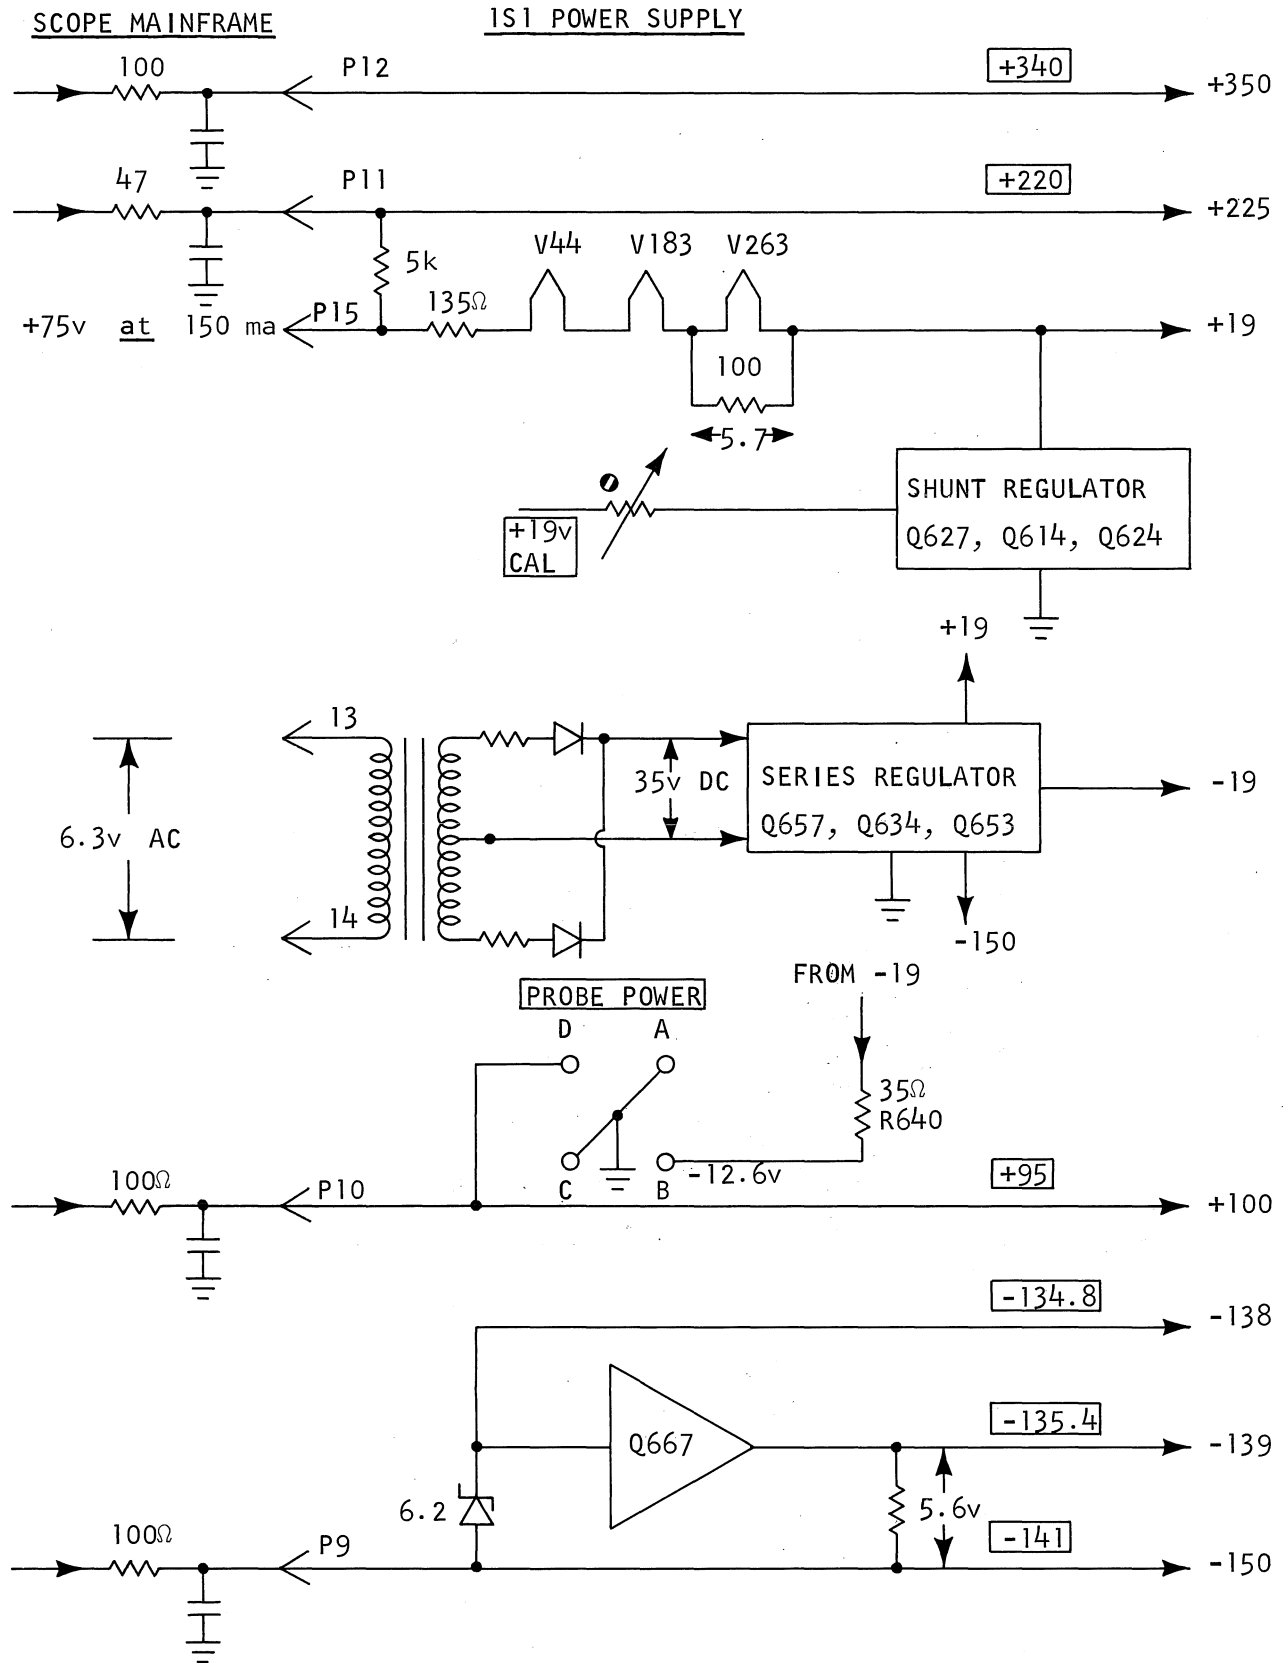

Figure 3-24
(See figure 3-24).
-150, +100, +225 and +350 are used by the ISI in non-critical positions, such as long trailing and collector supplies. These voltages are decoupled in the main-frame so they should all read low when measured in the ISI. Figure 3-24 shows the de-coupling circuits used in a 545A, and some actual voltage reading (boxed figures).